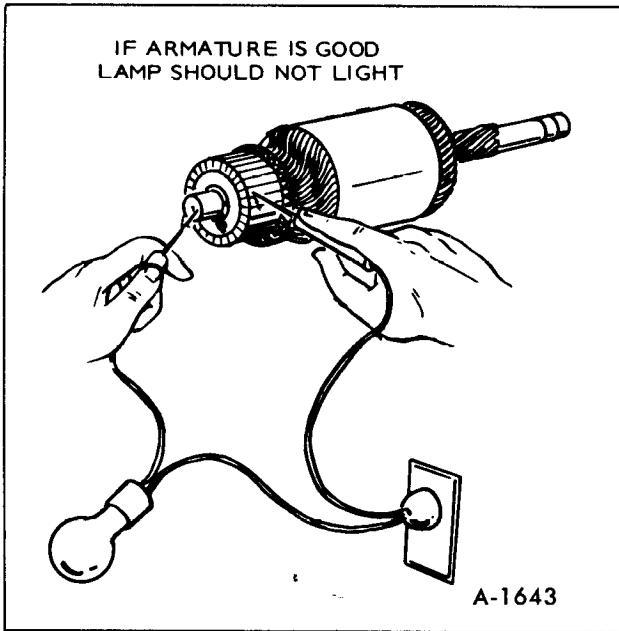

Figure 55-Testing for Grounded Armature
**GROUNDING ARMATURE:** Use a 120 volt test lamp set for testing armature for grounds as shown in Figure 55. If lamp lights when one probe of test lamp is touched to commutator with other probe to the core, the armature is grounded and must be replaced.